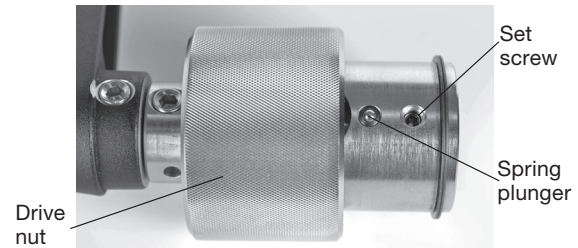

Fig. 9 Retracting the drive nut (second screw is on other side of housing)
1. Retract the drive nut onto the housing to expose the two additional 1/4 in. set screws. (Fig. 9)